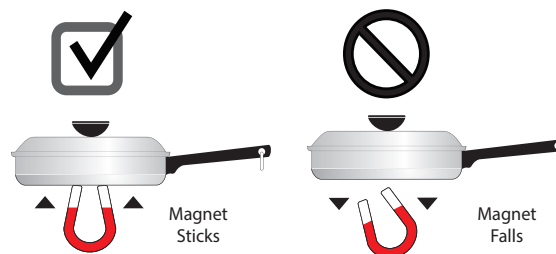

Figure 4: Magnet test
- **Stainless Steel** - Slow heat conductor with uneven cooking results. Durable, easy to clean, and resists staining. Some types of stainless steel will not work on an induction cooktop. Use the magnet test (Figure 4) to check stainless steel cookware.
- **Porcelain-enamel on metal** - Heating characteristics will vary depending on base material. Porcelain-enamel on a magnetic metal will work on an induction cooktop. Use the magnet test (Figure 4) to check porcelain-enamel cookware.